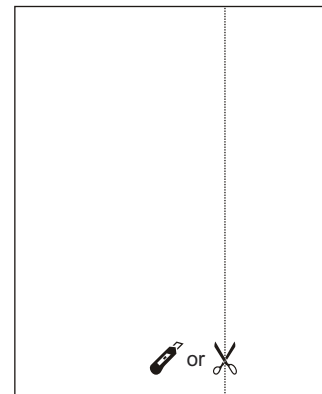

Fig.12
Step 2. Remark a line on the provide R1 insulation panel according to a length 1/8" (3mm) less than the measured width in step 1, then cut the R1 insulation panel along the line (Fig.12).